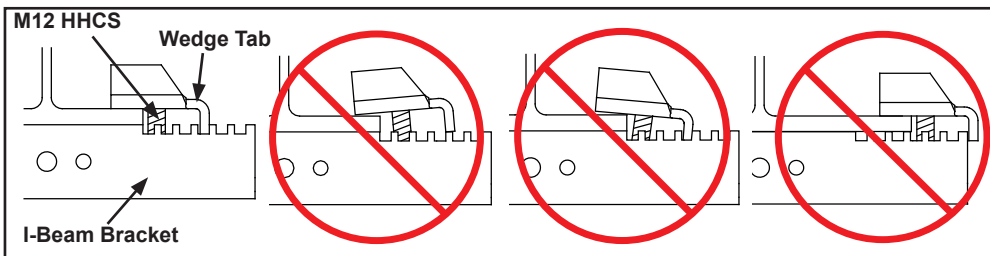

Figure 3-56A
- Step 5. Slide wedge tabs in toward web of beam until wedges contact I-Beam flange sides. See Figure 3-56A below.